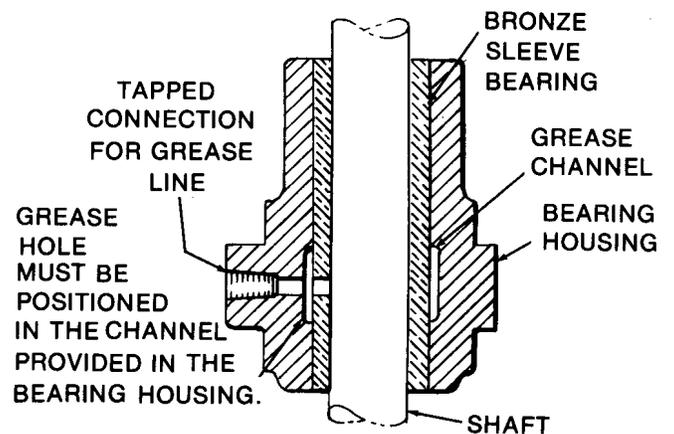

Figure 8. Installation of Sleeve Bearing for Types LB3A, LB3A, LB4A and LH2A
- For LB3A, LB4A and LH2A sump pumps, align grease hole visually, or blow air through grease line opening in bearing housing to insure that grease lubrication hole in bearing is positioned within the channel of the bearing housing (see figure 8).